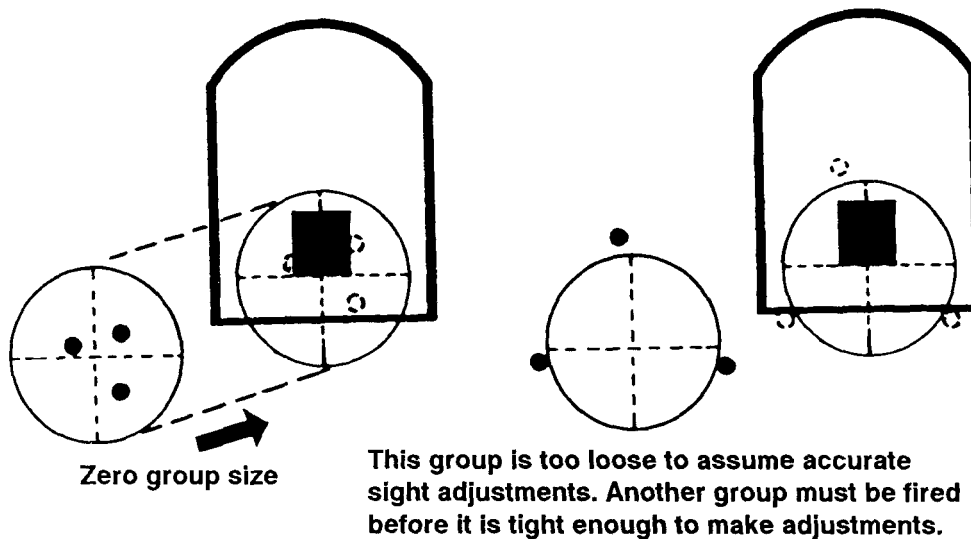

Figure 5-19. Zero group size.
(1) Count the number of squares it will take to move the shot group to the aiming paster.
(2) Upon completion, return to the firing line to make corrections to the weapon. Figure 5-19 illustrates a zero group size on which adjustments can be made and a group that is too loose for adjustments. If a group is too loose, check your position and grip.